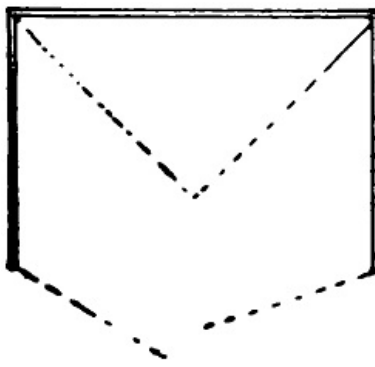

FIGURE 118.
*Magic Cabinet.*—In this act a person enters the cabinet, Figure 118. The outer doors are closed for an instant and then opened. The person has disappeared! The disappearance is brought about by pulling the two mirrors, arranged inside of the cabinet, into the position indicated by the dotted lines. When the cabinet is open for inspection, these are swung to the side and are invisible. The backs are of the same design as the rest of the interior cabinet. When they are pulled together and hide the person behind them, they reflect the side walls of the cabinet and are not noticed. If the cabinet is well made and the act skilfully performed, the outer doors may even be omitted.